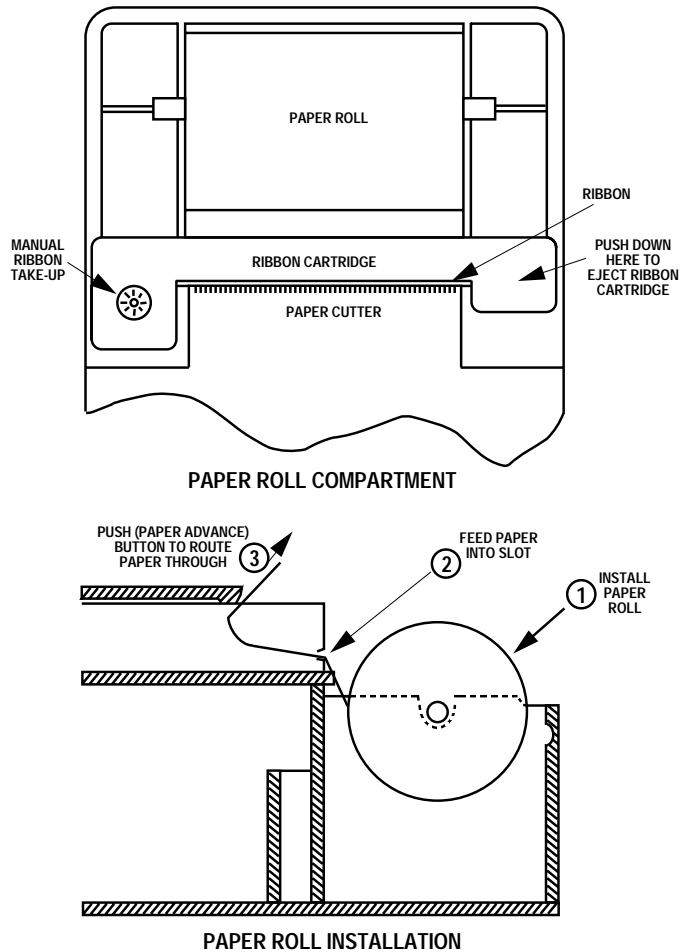

Figure 3-6. Ribbon and Paper Installation for AM-47XT
Refer to Figure 3-6. For replacement ribbon cartridges, order Part No. 26-0015.
3. Push on end of cartridge as indicated in Figure 3-6 to eject old cartridge.
Refer to Figure 3-6. For additional rolls of paper, order Part No. 26-0014.